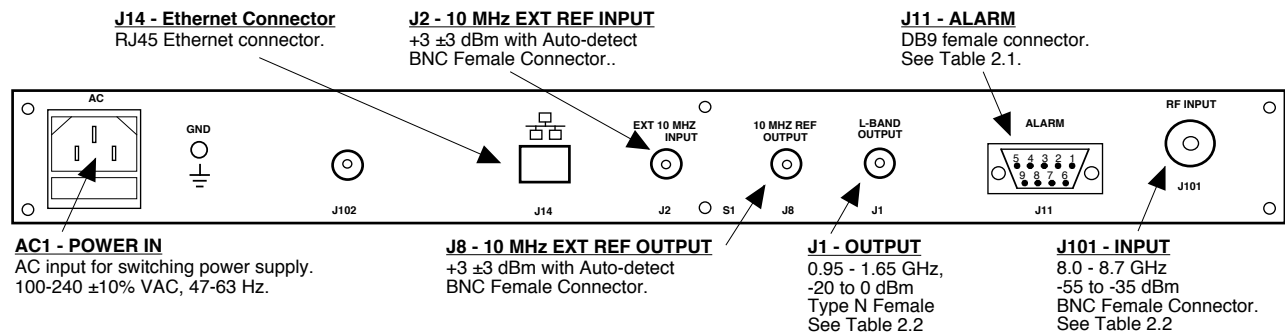

FIGURE 2.1 3116-80 Rear Panel I/O's
Figure 2.1 shows the input and output connectors on the rear panel.
1. Connect a -55 dBm to -35 dBm signal to RF IN, J101 (Figure 2.1).